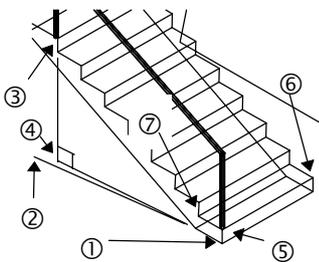

Figure 21
- Using Figure 21 as a guide, issue the 2D-Rotate command, select the inserted handrail, and, when prompted for the *Base Point*, use the *.xy* filter of the block’s *Insertion Point* (plus a point on the current UCS as the Z-value) to indicate the centre of rotation (this is point **1** in Figure 21).
- When prompted for the *Angle*, type *r ↵* (for “Reference”), and then use the *.xy* filter again to pick **1**, then, with ORTHO on, pick any point in the negative-X direction as the second point (say point **2** in Figure 21), and finally use the *.xy* filter and |Endpoint| and pick point **3** (followed by any point on the UCS plane to provide the Z-value) to yield point **4**.